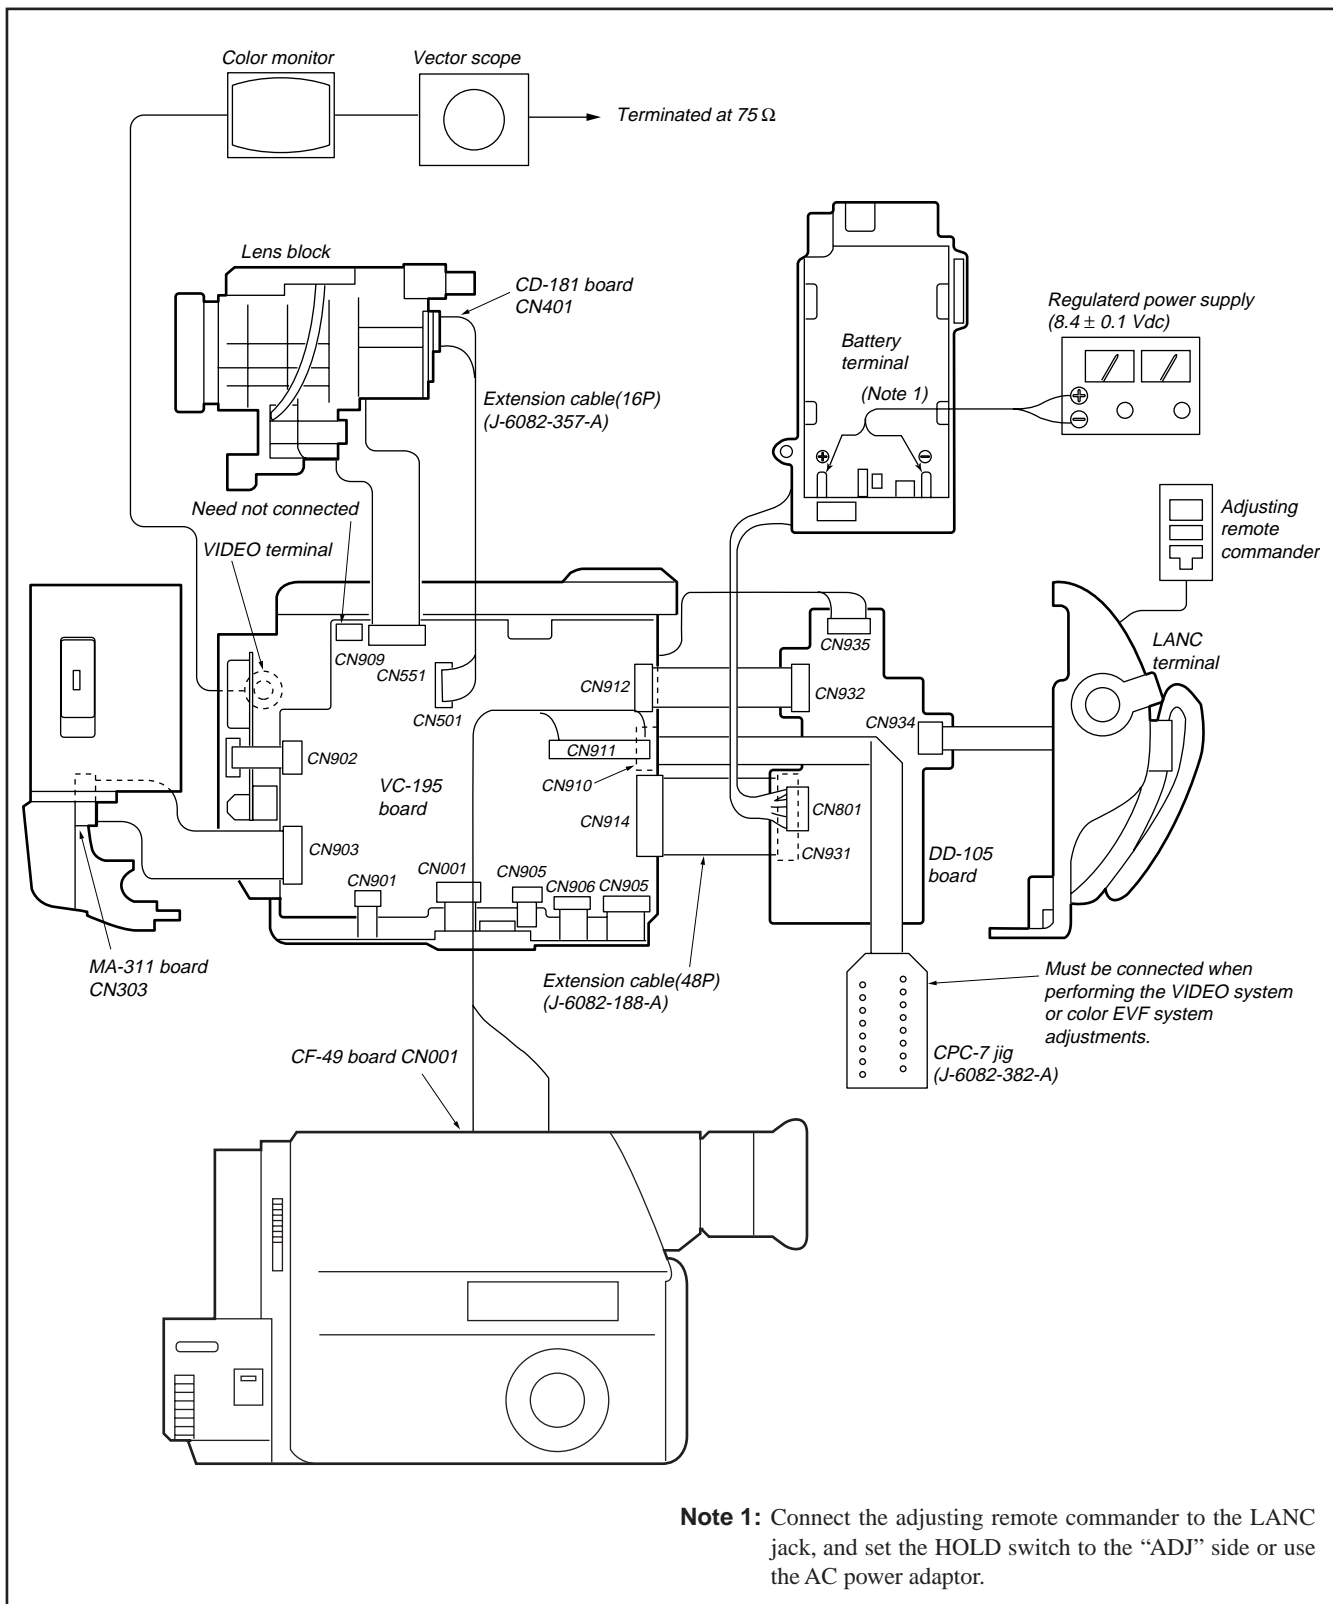

Fig. 5-1-3.
- 1) Connect the equipment for adjustments according to Fig. 5-1-3.